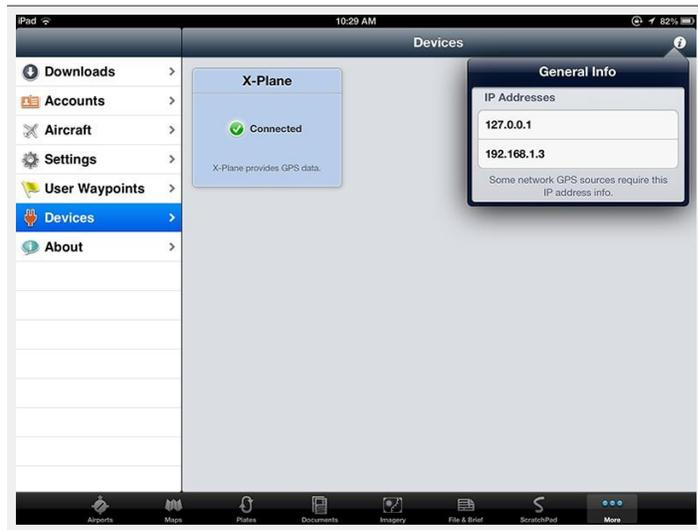

Figure 6.2: The ForeFlight settings after connecting to X-Plane [Full size →]
8. If your devices are configured per the above steps, you should have a small square labeled “X-Plane” in the Devices window of ForeFlight, as seen in Figure 6.2. (Note that you may need to click on this box in order to enable the connection.) If this is not the case, make sure X-Plane is able to get through your firewall by following the steps in the section “Allowing X-Plane through Your Firewall” of Chapter 4.